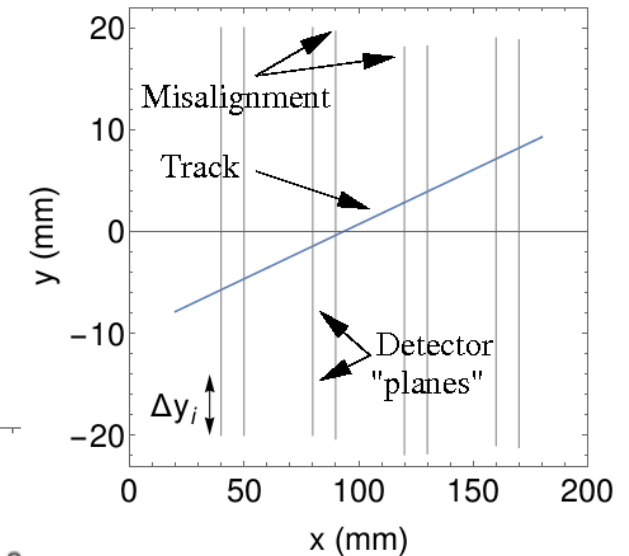

Figure 1
- Two-dimensional 'detector' with eight planes (Fig. 1).